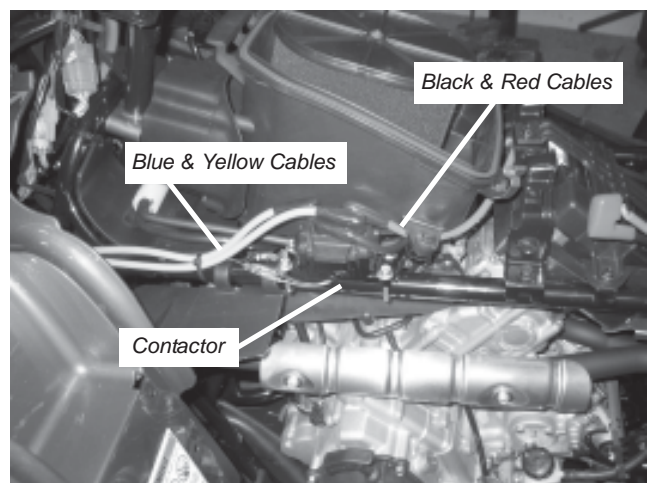

Figure 17
- g. Secure contactor with supplied U-bolts, washer and nuts, supplied in winch mounting kit, see Figure 17.
- i. Route the blue and yellow cables along frame as shown in Figure 17.